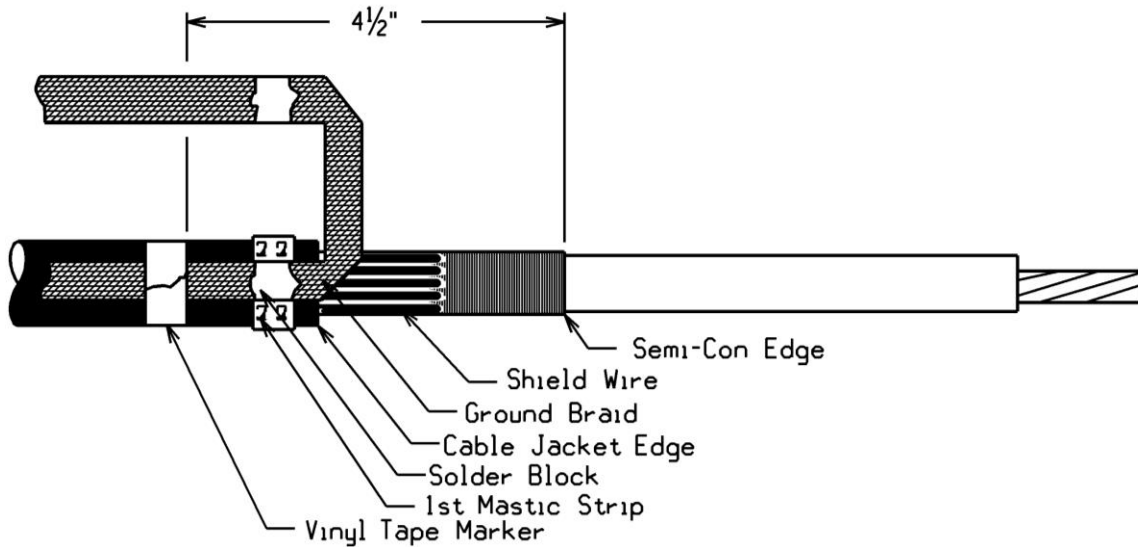

Figure 13
- Position pre-formed "U" shaped ground braid over tape shield directly adjacent to cable jacket cut edge. The long tails should extend over the cable jacket with the solder block of one tail positioned over the mastic. Secure this tail to the cable jacket with a vinyl tape marker located 4½ inches from the edge of the cable semi-con. See Figure 13.